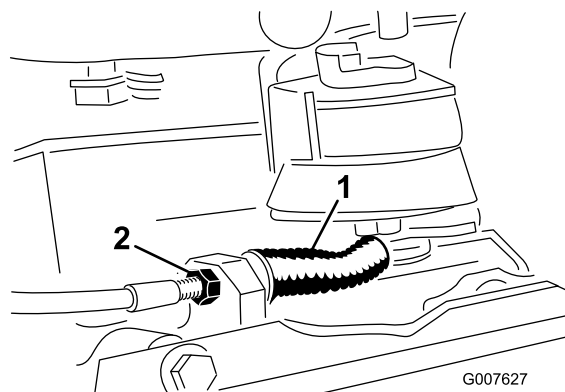

Figure 34
- To decrease the cable tension, loosen the front cable jam nut and tighten the rear jam nut (Figure 34). Repeat steps 1 and 2 and readjust if required.
- To increase the cable tension, tighten the front cable jam nut and loosen the rear jam nut (Figure 34). Repeat steps 1 and 2 and readjust if required.